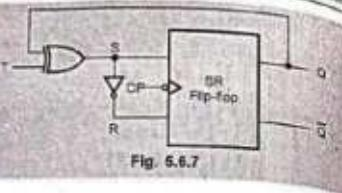

Fig. 5.6.7
**Example 5.6.1** Prepare the truth table for the circuit of Fig. 5.6.7 and show that it acts as a T-type flip-flop.